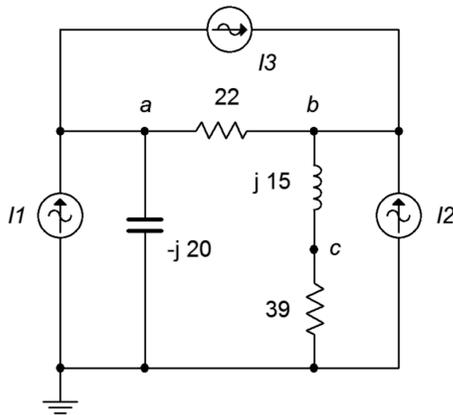

Figure 6.20
39. Use nodal analysis to find the current through the  $22\ \Omega$  resistor in the circuit of Figure 6.20.  $I_1 = 800E-3\angle 0^\circ$ ,  $I_2 = 2.5\angle 0^\circ$ ,  $I_3 = 2\angle 20^\circ$ .
40. Given the circuit in Figure 6.20, use nodal analysis to determine  $v_c$ .  $I_1 = 4\angle 90^\circ$ ,  $I_2 = 10\angle 120^\circ$ ,  $I_3 = 5\angle 0^\circ$ .